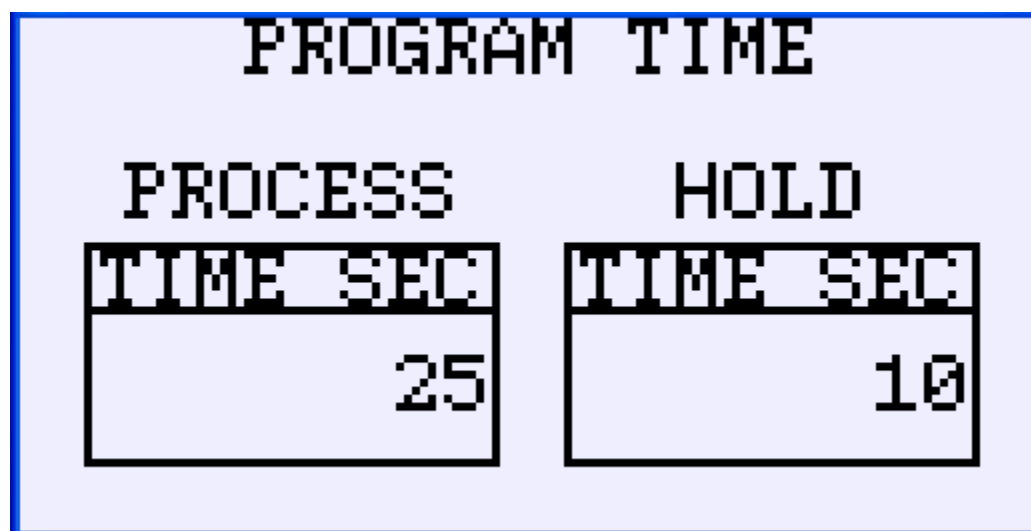

Figure 9
9. Press the **Next** function button; this takes you to the **PROGRAM TIME** screen (Figure 9). This is the second of four auto run program screens.